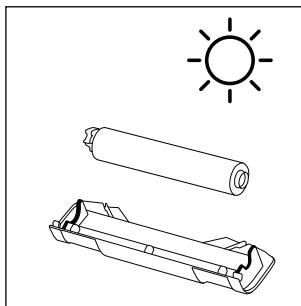

Fig. 37
- ◆ Allow the rotary brush **6** and the splash guard **7** to dry completely before fitting them back onto the appliance (see fig. 37).